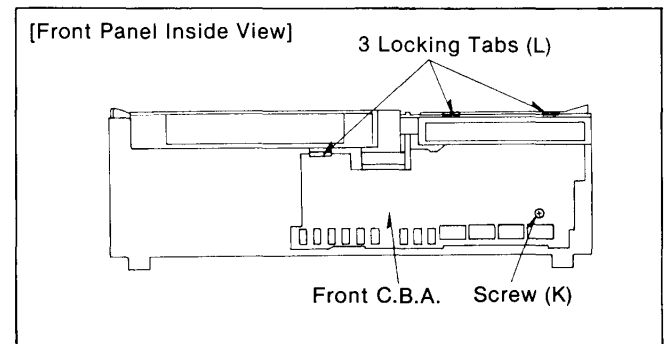

Figure D11
3. Unscrew a screw (K) on the Front C.B.A. (Figure D11).
4. Unlock the 3 locking tabs (L) on the Front C.B.A. and carefully lift the Front C.B.A. (Figure D11).